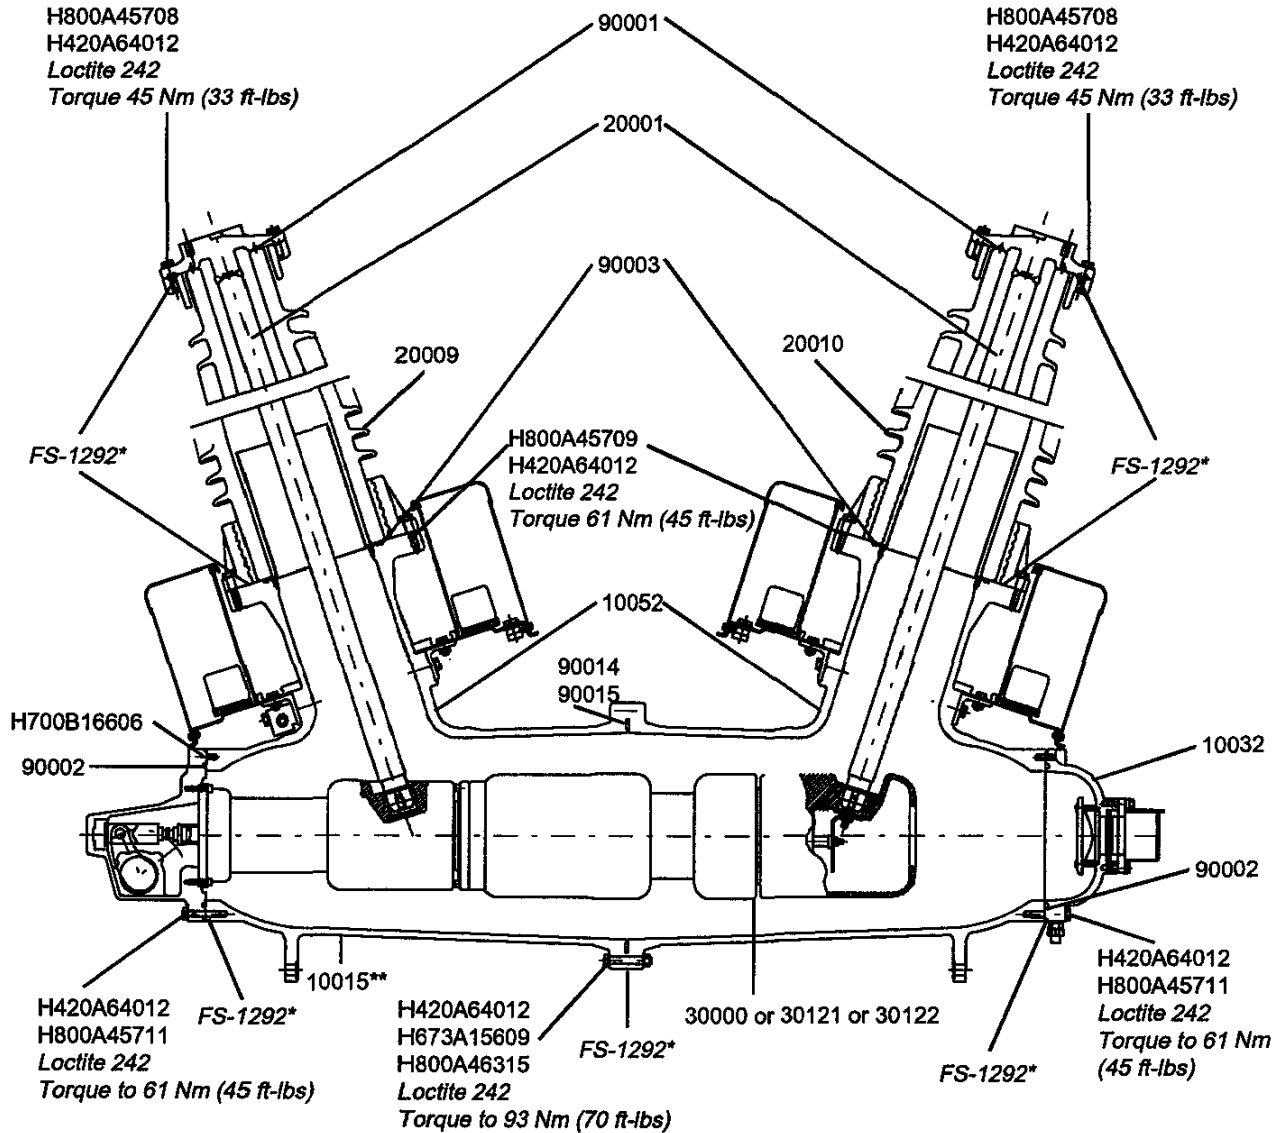

Figure 1
11. Remove the studs from the bushing top flange and re-install the six 1/2-inch hex head bolts H800A45708 (Fig. 1) and washers H420A64012 at each bushing cap. Apply Loctite 242 and torque to 45 Nm (33 ft-lbs).
To install the terminal pad 20311 (Fig. 7) to the top cap of the bushing conductor 20001 (Fig. 1):
1. Remove the rear tank cover assembly 10032 (Fig. 1) by unscrewing the twelve 1/2-inch hex head bolts H800A45711 and flat washers H420A64012.
The pole tank 10015 (Fig. 1) is made up of two identical halves 10052 bolted together in the center. The SF₆ gas is sealed by a double O-ring sealing system where the tank halves join.
1. Remove the 1/2-inch hex head bolts H800A46315 (Fig. 1), washers H420A64012, and nuts H673A15609 which hold the halves together.
5. Rejoin the tank halves, being certain that the O-rings are properly situated. Re-install the 1/2-inch hex head bolts H800A46315 (Fig. 1), washers H420A64012, and nuts H673A15609. Apply Loctite 242 and torque to 93 Nm (70 ft-lbs).
4. Re-install the rear tank cover assembly 10032 using the twelve 1/2-inch hex head bolts H800A45711 (Fig. 1) with washers H420A64012. Apply Loctite 242 and torque to 61 Nm (45 ft-lbs).